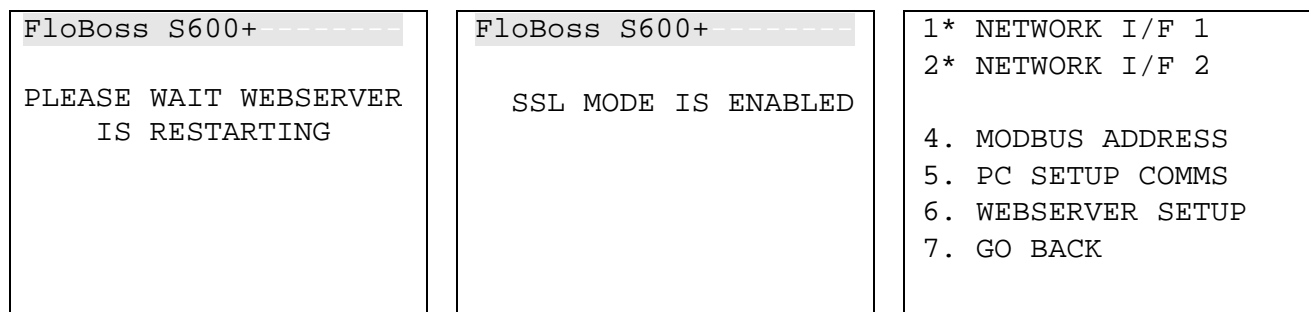

Figure 5-21. Activating Encryption
2. To enable encryption, select **1**. The S600+ restarts the webserver, displays a message verifying the new setting, and then displays the Network Setup menu (see *Figure 5-21*)